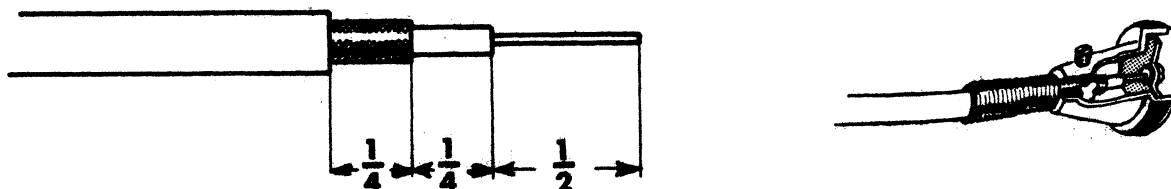

Fig. 12
- () Fig. 12. Connect the female co-axial connector to the other end of the UNI-PROBE cable as follows: Strip the cable end exactly as shown. Disassemble the connector. Slip the stripped cable end into the larger diameter end of the spring and then solder the small diameter end of the spring to the very edge of the metal braid. Slip the connector ring over the cable end past the spring, unthreaded end first. Pass the cable end thru the tapered end of the connector (threading the inner conductor thru the eyelet in the bakelite disc) until passage is stopped by the larger spring diameter. Tighten the set screw in the connector body so that the cable and spring will be secured mechanically. Solder the inner conductor of the cable to the eyelet in the bakelite disc and trim off excess lead. A section of the internally threaded part of the connector ring should extend past the connector body to enable coupling to the male connector on the panel.